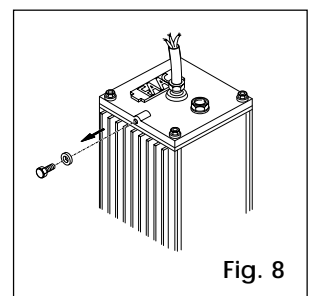

Fig. 8
- 3) **Remove the breather screw as shown in Figure 8 and keep it in a safe place.**